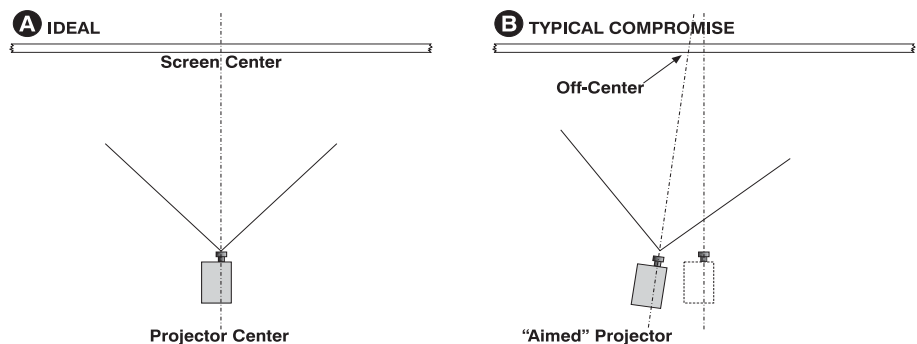

Figure 2-2 Position the Projector
1. Position the projector at an appropriate throw distance (projector-to-screen distance) and vertical position. Ideally, center the projector with the screen. If space is limited, aim the projector slightly off-center as shown in **Figure 2-2**. This increases side keystone, but reduces the horizontal lens offset required.